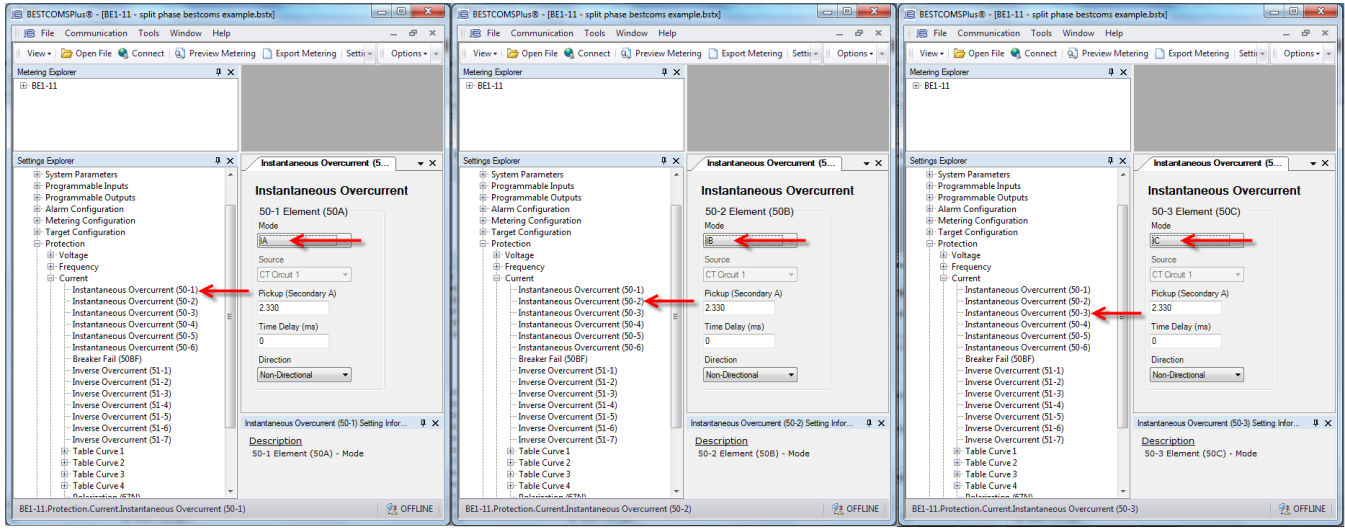

Figure 3 - Setting Instantaneous Overcurrent Elements in BESTCOMSPiUS
Configure the instantaneous overcurrent elements (50) in the same manner as the inverse time overcurrent elements (51) (see Figure 3). For this example, the Instantaneous Overcurrent 50-1 Mode is set to IA to correspond with the A-phase generator winding. Pickup is set to 2.33 secondary A (seven times the normal circulating current value) and Time Delay remains at the default 0 milliseconds. The same procedure is followed for IB with Instantaneous Overcurrent (50-2) and IC with Instantaneous Overcurrent (50-3).